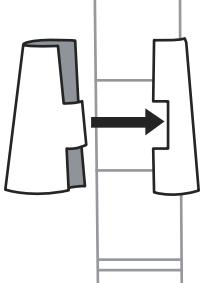

Figure 1
1. Start with the lowest shelf. Snap the interlocking pieces of a shelf support (wide end down) around the post at the lowest groove. Slide the support up or down until it snaps onto the groove. Add a shelf support to the same place on the remaining posts. (See Figure 1)